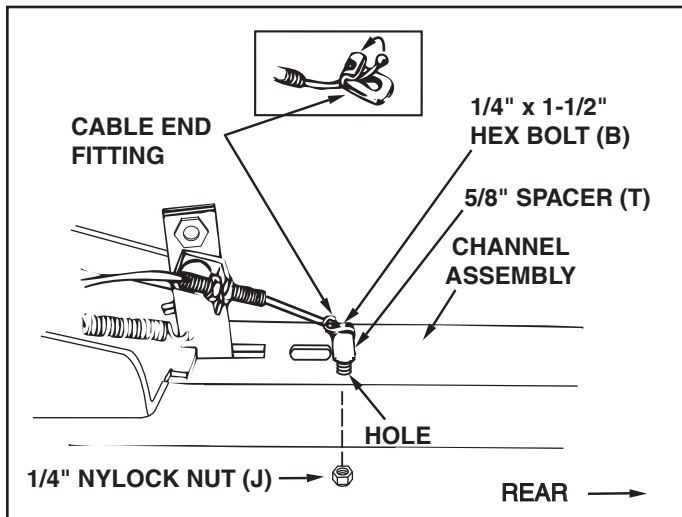

**FIGURE 19** (Left Hand Side View)
**STEP 5: (SEE FIGURE 19)**
- Assemble one 5/16" jam nut (I) approximately 3/4" onto threaded end of control cable that has no rubber cap or preassembled nuts. Assemble threaded cable end through round hole in cable mount bracket and secure with another 5/16" jam nut (I). **Tighten.**